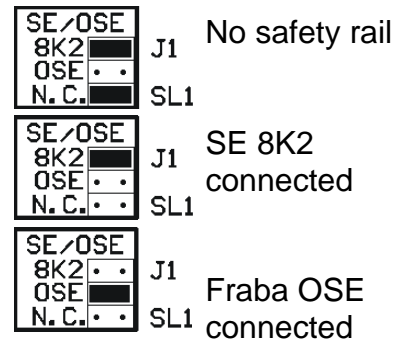

Fig.2
- Safety rail 8K2, alternatively Fraba-OSE (select via **Jumper SL1**). Fit the jumper as shown in Fig. 2 depending on the application.